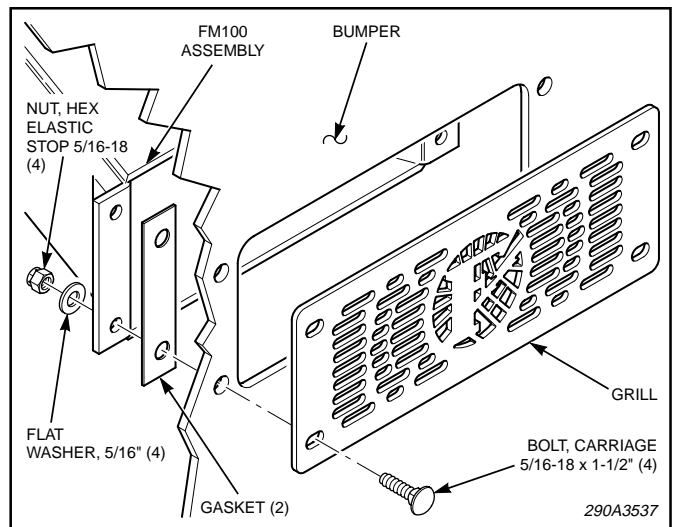

Figure 2.
3. Secure the speaker to the bumper as shown in figure 2. Note that the grill can be installed on the outside, or the inside, of the bumper.